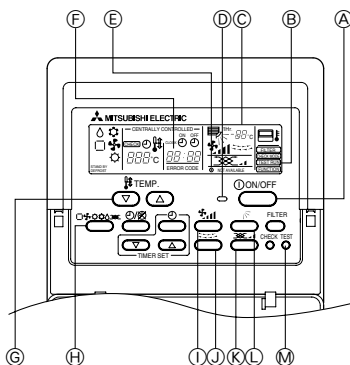
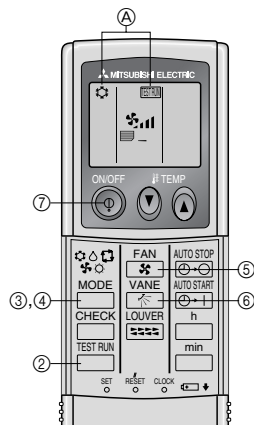

Fig. 8-1
Fig. 8-2
8.2.1. Using wired remote controller (Fig. 8-1)
- ① Turn on the power at least 12 hours before the test run.
- ② Press the [TEST] button twice. ➡ "TEST RUN" liquid crystal display
- ③ Press the [Mode selection] button. ➡ Make sure that wind is blown out.
- ④ Press the [Mode selection] button and switch to the cooling (or heating) mode. ➡ Make sure that cold (or warm) wind is blown out.
- ⑤ Press the [Fan speed] button. ➡ Make sure that the wind speed is switched.
- ⑥ Switch the wind direction by pressing the [Airflow] or [Louver] button. ➡ Make sure that horizontal outlet, downward outlet, and other wind direction adjustments are possible. ➡ Check operation of the outdoor unit fan.
- ⑦ Release test run by pressing the [ON/OFF] button. ➡ Stop
- ⑧ After the checks, always turn off the power.
8.2.2. Using wireless remote controller (Fig. 8-2)
- ① Turn on the power to the unit at least 12 hours before the test run.
- ② Press the button twice continuously.